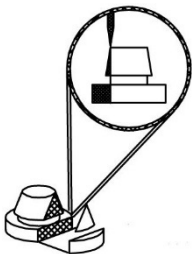

Figure 16:
8. Trim Panel plug as shown (Figure 16).